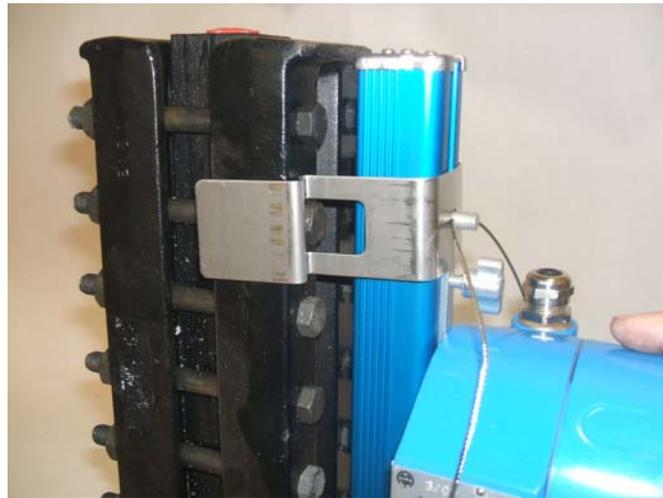

Figure 3
Step 2: Press LumaStar assembly against rear of gauge as shown in Figure 3, aligning the bracket cutouts over the gauge bolt heads as shown. Align the brackets with the 2nd set of bolts in from each end of the gauge, when possible.